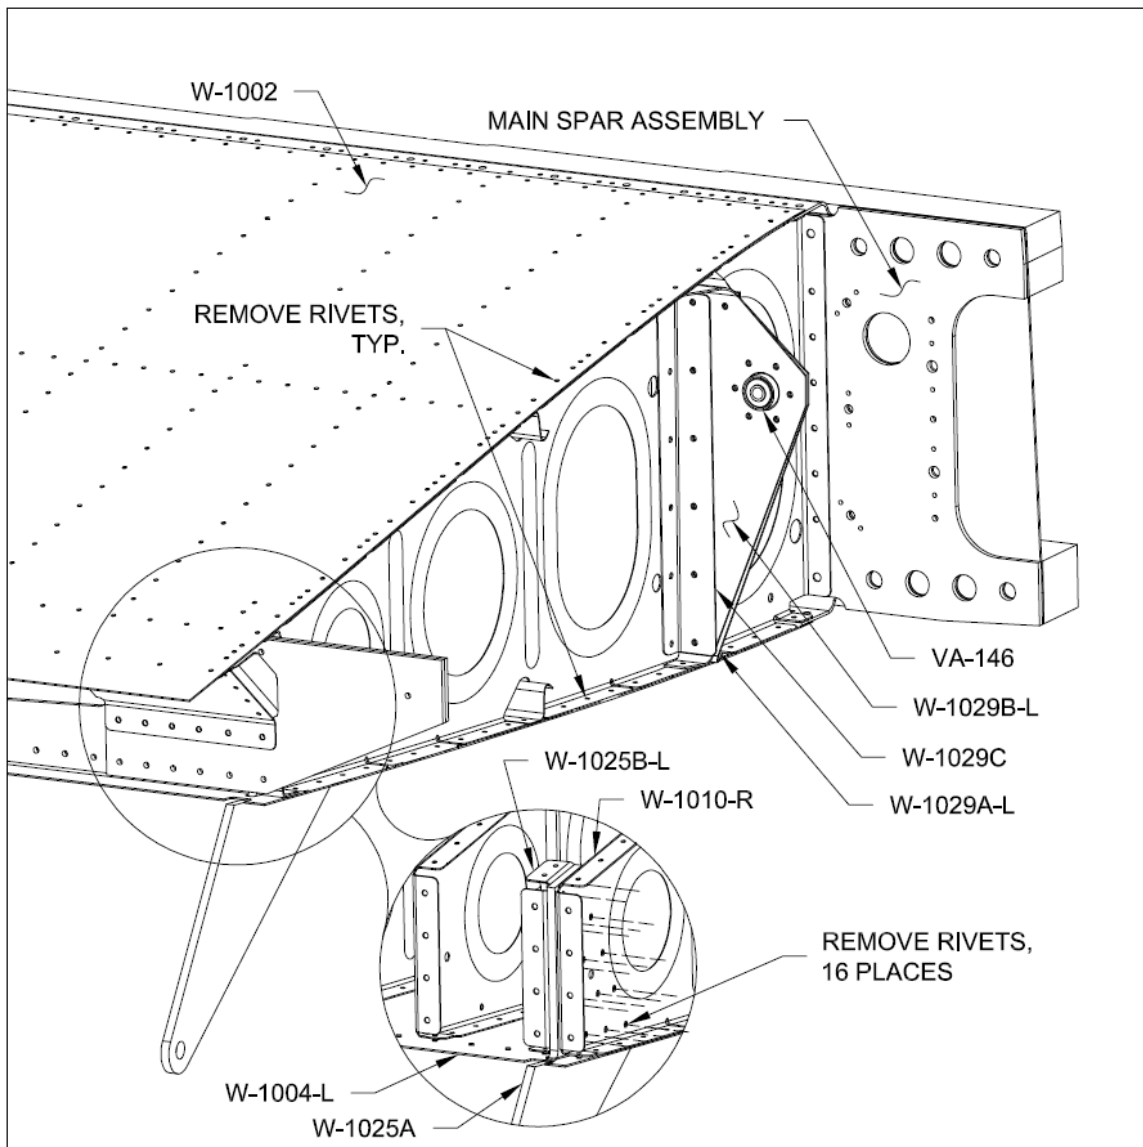

FIGURE 1: LEFT WING ROOT AREA
Step 6: Remove rivets fastening the W-1025A to the W-1010-R and W-1025B-L as shown in the detail view of Figure 1. Remove the W-1025A, set aside for reinstallation in a later step.
Step 7: Remove all rivets joining the W-1002 Top Inbd Wing Skin to the W-1010-R, including those common with the W-1029A-L and W-1029B-L. See Figure 1.
Step 8: Remove all rivets joining the W-1004 Bottom Inbd Wing Skin to the W-1010-R, including those common with the W-1029A-L and W-1029B-L. See Figure 1.
Step 9: Remove all fasteners joining the W-1010-R to the Main Spar Assembly. See Figure 1.